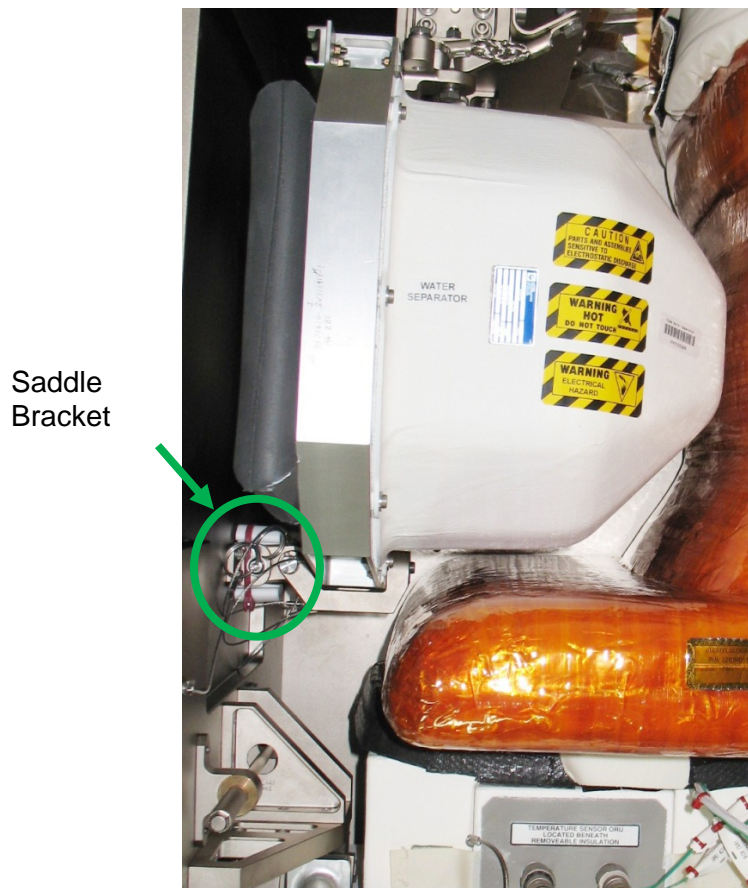

Figure 4.- Node 3 CCAA Water Separator ORU.
- 4.1 Remove red Zip Tie from Saddle Bracket (8-1/4" Long, 2" Cut Scissors). Refer to Figure 4.